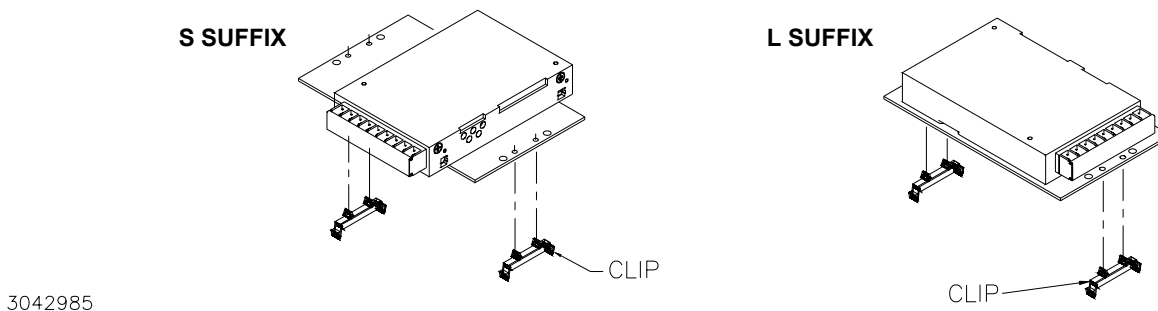

FIGURE 4. INSTALLING CLIPS ON MOUNTING PLATE
2. **INSTALL CLIPS.** Snap the two clips into the mounting plate holes (see Figure 4).